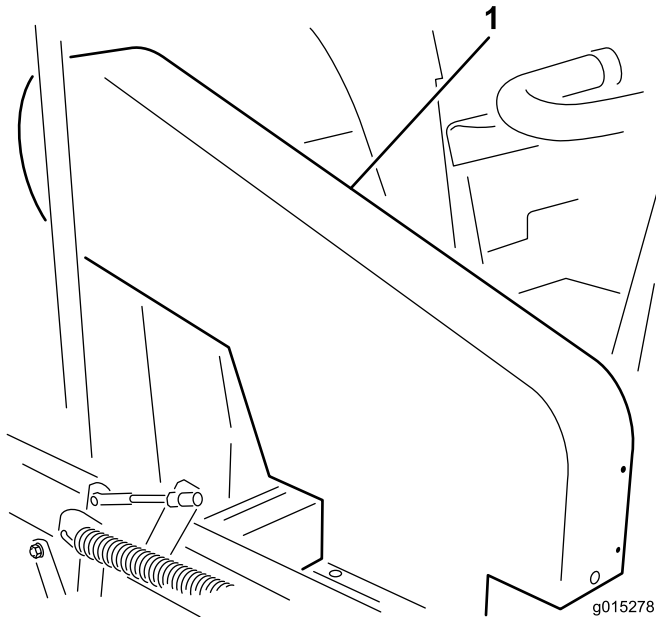

Figure 23
Note: It is not necessary to remove the upper belt guard (Figure 23) to check the belt tension. If for some reason the belt guard must be removed, remove the 4 bolts, washers, and nuts securing the guard to the frame. Never operate the machine without the guards in place.
Check the tension by depressing the belt at the mid span of the impeller and clutch pulleys with 4–5 lbs (18–22 N) of force. The belt should deflect .5 inches (1.27 cm). If the deflection is incorrect, proceed to Adjusting the Impeller Drive Belt (page 23). If the deflection is correct, continue normal operation (Figure 23).
Check the tension by depressing the belt at mid span of the jackshaft and clutch pulleys with 4–5 lbs (18–22 N) of force. The belt should deflect .25 inches (6.35 mm). If the deflection is incorrect, proceed to Adjusting the Jackshaft Belt (page 23). If the deflection is correct, continue normal operation (Figure 23).
1. Remove the 4 bolts, washers and nuts securing the upper shroud to the frame (Figure 23).